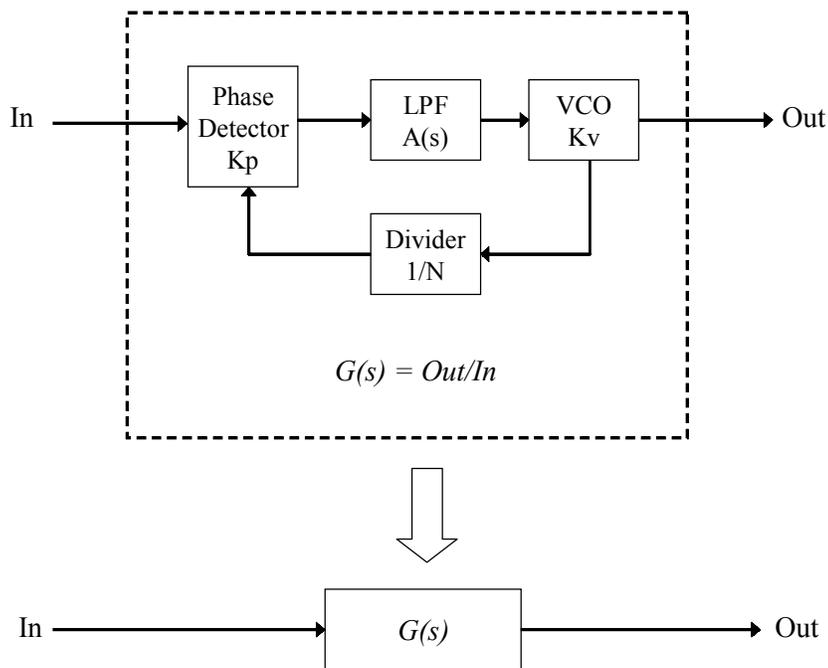

Fig.1 PLL Functional Block
Fig. 1 shows a simplified block diagram of generic phase locked loop (PLL). A PLL consists of the Phase Detector (PD), Low Pass Filter (LPF), Voltage Controlled Oscillator (VCO) and Frequency Divider (FD).
It should be noted that $G(s)$ becomes the first order low-pass filter only when $H(s)$ is constant, namely when $H(s)$ is non-dependent on the frequency. This means that $H(s)$ is no longer a low-pass filter in this case. On the contrary, it is well known that the PLL will not be stable without low-pass filter in place of $H(s)$. Therefore the first order transfer function which is required by CRU for HDMI may not be realized by the PLL circuitry shown in Fig.1.